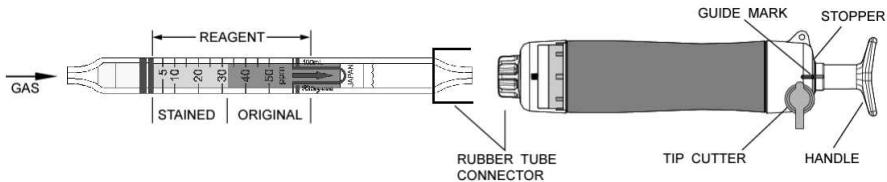

Fig.1
- ② Insert the detector tube into the aspirating pump securely as shown in Fig.1. (Arrow mark shall point to the pump.)
- ③ Align the guide marks on the shaft and stopper of the aspirating pump.
- ④ Pull the pump handle at a full stroke until it locks and wait for 1.5 minutes or until the completion of sampling is confirmed with the flow indicator of the pump (See descriptions about the flow indicator in the instruction manual of the pump).
- ⑤ On completion of sampling, read the scale at the maximum point of the stained layer.
- ⑥ When the concentrations are below the scale range, 2 pump strokes can be used to determine these lower concentrations.
- ⑦ When the concentrations are over the scale range, a 1/2 pump stroke can be used to determine these higher concentrations.